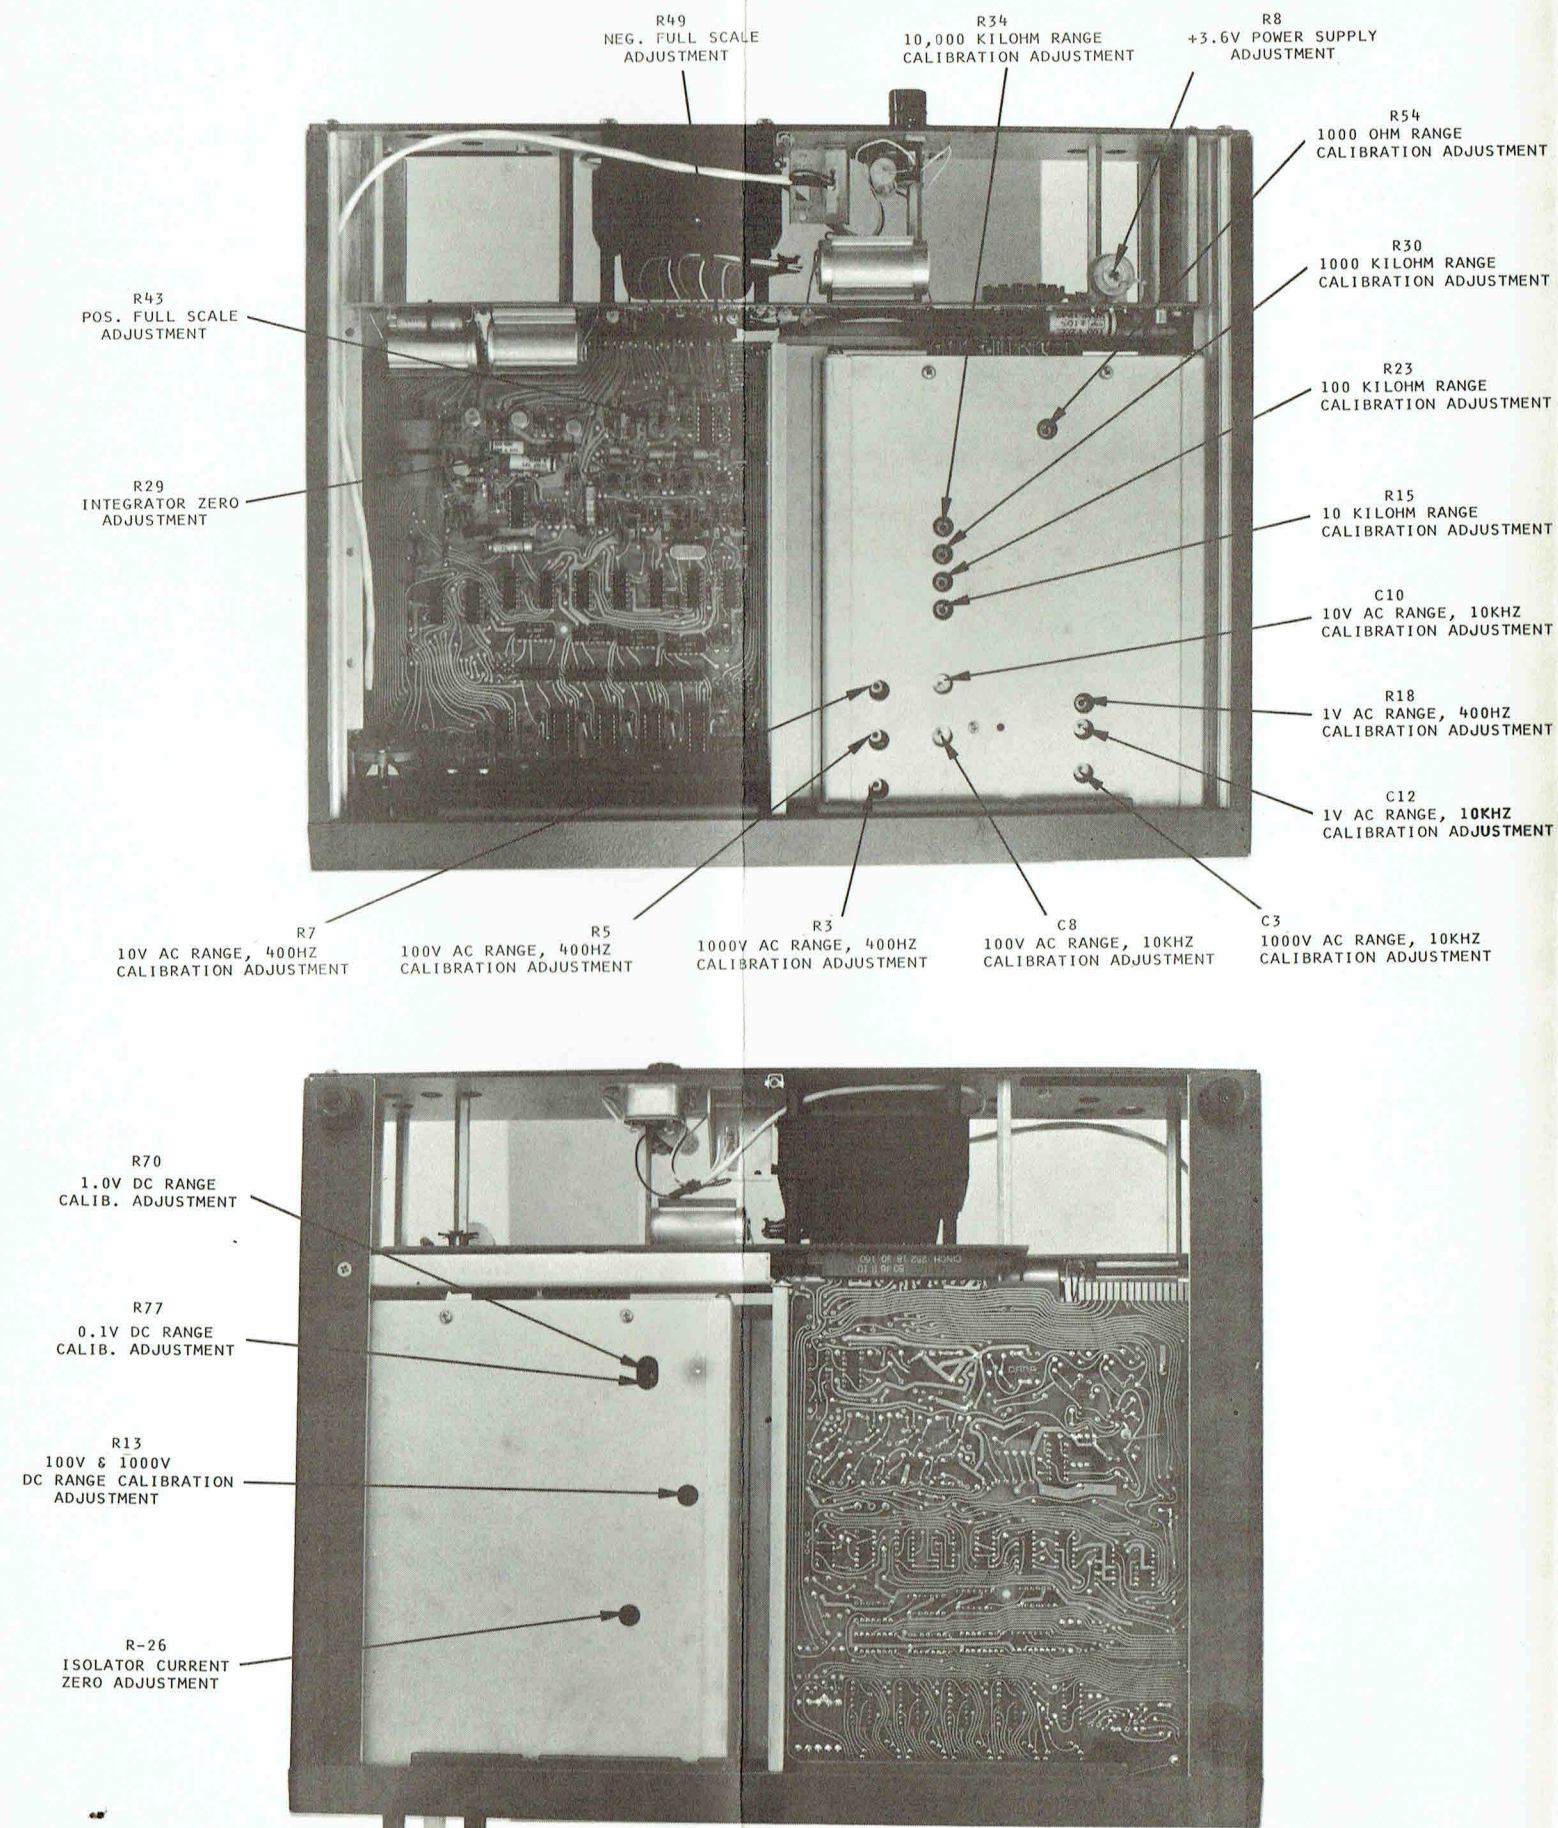

Figure 5.1 Calibration Adjustments
5.9 INTEGRATOR ZERO ADJUSTMENT (Refer to Figure 5.1)
5.10 VOLTAGE CALIBRATION OF THE DIGITIZING AND DISPLAY MODULE (Refer to Figure 5.1.)